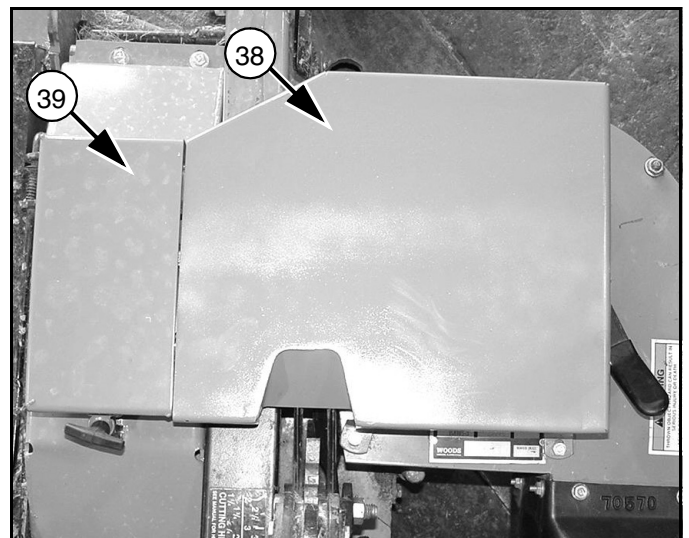

Figure 9. Belt Shield Installed (D5221T Shown)
1. Disengage belt tension lever (29).
2. Release rubber latch on vacuum drive shield (39), Figure 9.
3. Remove belt shield (38) from vacuum housing (38), Figure 9.